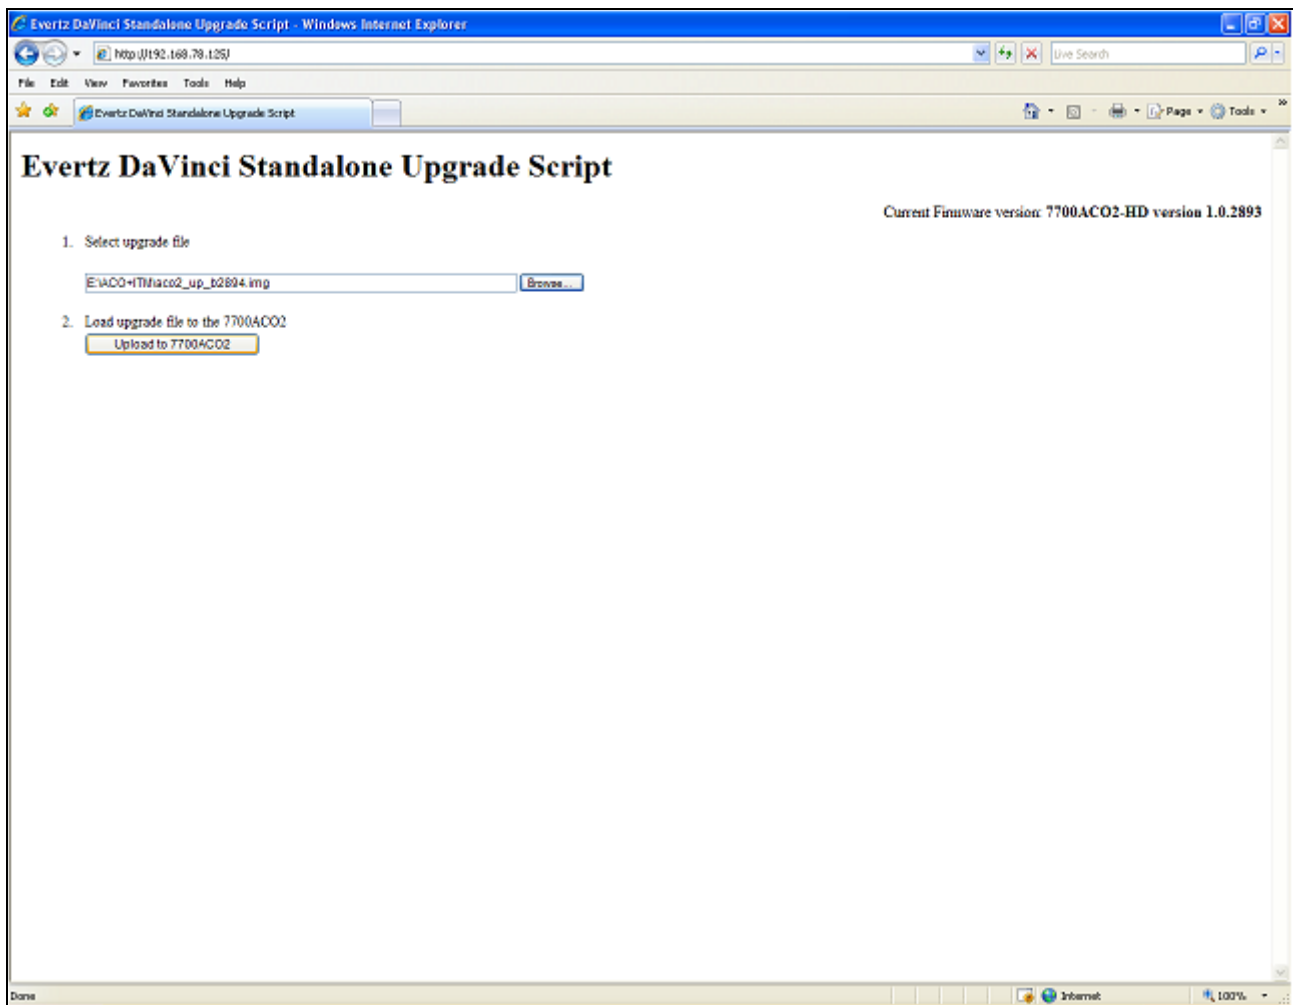

Figure 7-1: Upgrade Window
3. An upgrade page will appear as shown in Figure 7-1.